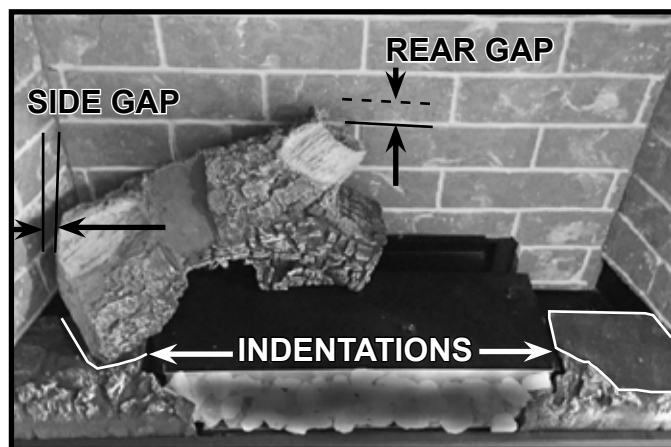

Figure 4 Rear Left Log Installed
The log pins, along with the indentations in the hearth components, will aid in correctly positioning the two rear logs and small burner log. The indentations are shown in Figure 4.
Additionally, the rear left log and rear right log are located by indentations in the right and left hearth components. See Figure 4.
1. Remove large rear left log from the packaging and install the log by locating it on the back left log pin(s). See Figure 4.
**Note:** SL-3X models do not utilize hearth indentations. See Figure 4.
**SL-7X and SL-9X Models:** The left side of the rear left log will reside within the indentation in the left hearth component. The rear left log will be positioned to maintain about a 1/4 inch rear gap between the rear left log and the back wall refractory. There will be about a 1 inch side gap between the left end of the log and left panel. See Figure 4.
**SL-3X Models:** The notch on the rear left log will engage the back left log pin. The rear left log will contact the left refractory panel (no side gap). See Figure 4.